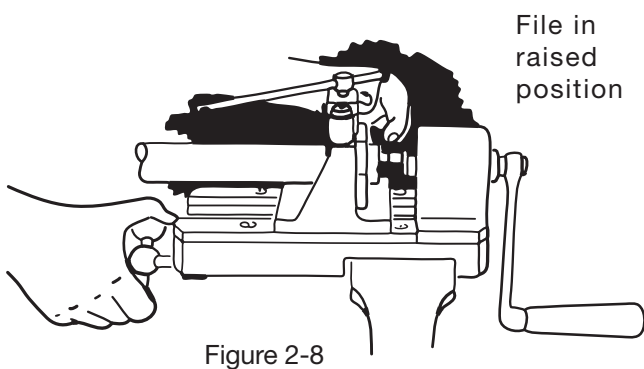

Figure 2-8
a. Raise spring loaded file segment, and while holding in this position advance carriage until end of tubing is approximately in center of file. (See figure 2-8.) Release file segment and turn spindle operating handle until complete deburring is accomplished.